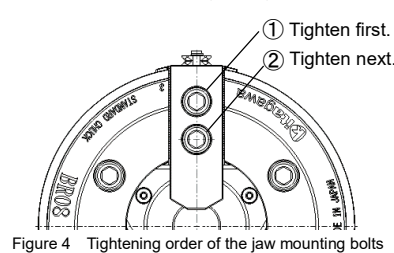

Figure 4 Tightening order of the jaw mounting bolts
- To maintain the mounting repeatability of the BR-AJC_M stably for a long period of time, tighten the jaw mounting bolts to the specified torque always from the one on the chuck outside diameter side. (See Figure 4 and Table 2.)